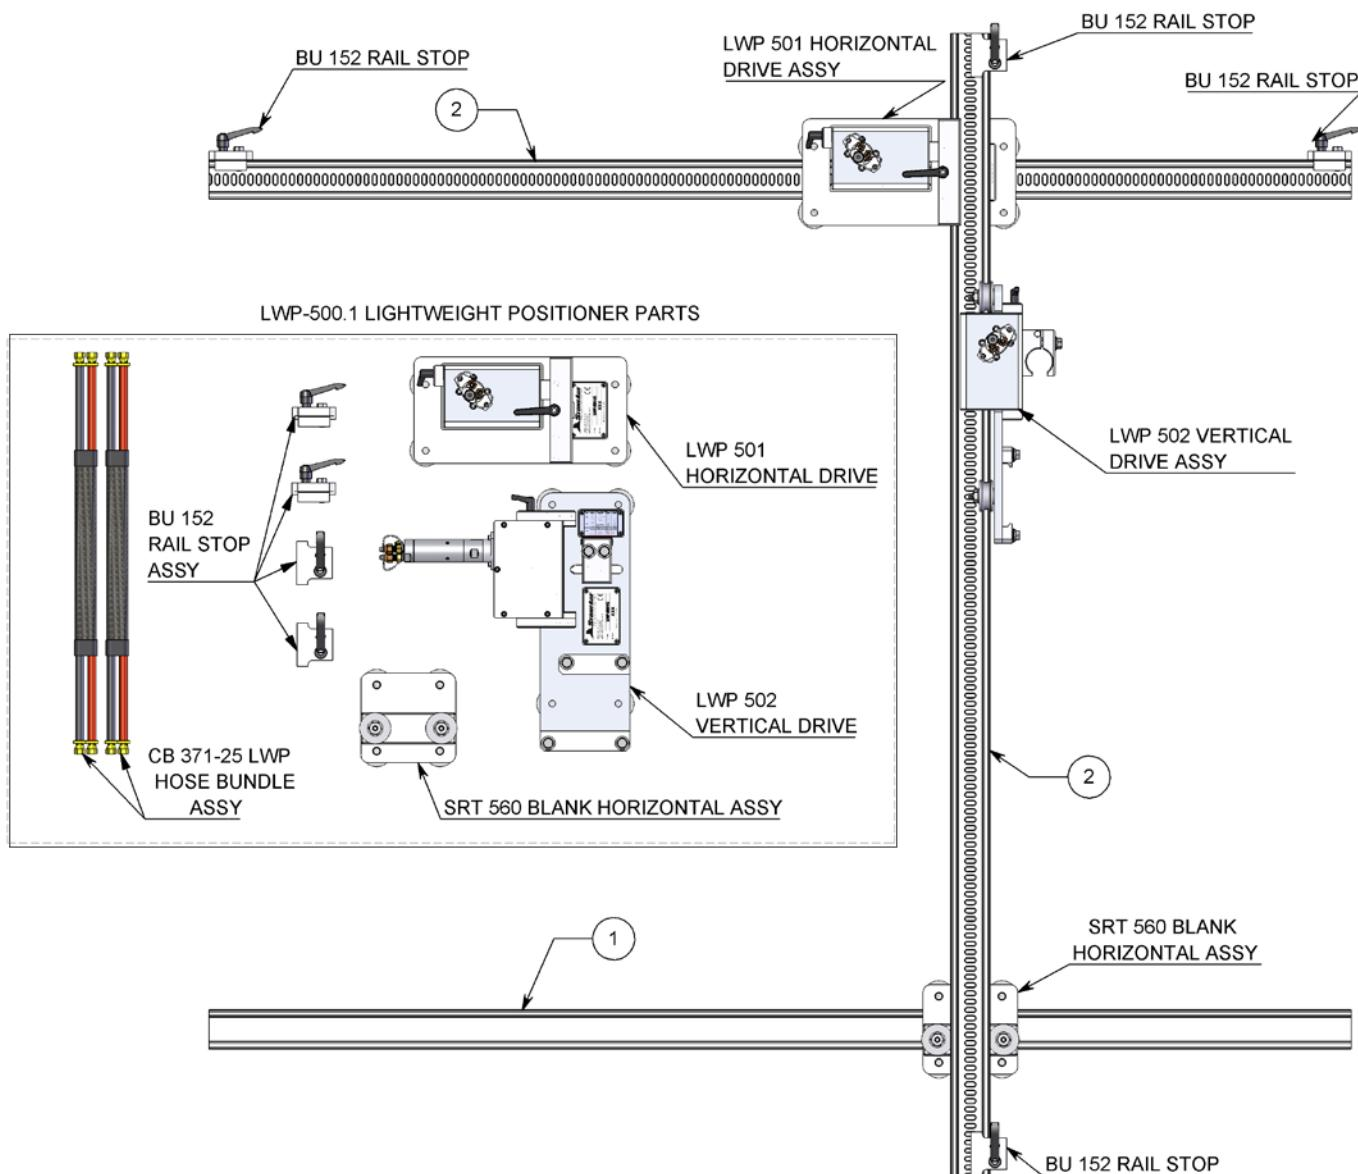

**FIGURE 11**
13. Connect 1/4" air lines from Control Box to the valve assembly on the Tripod Stand and from the Tripod Stand to the Dump. (**Figure 11**)